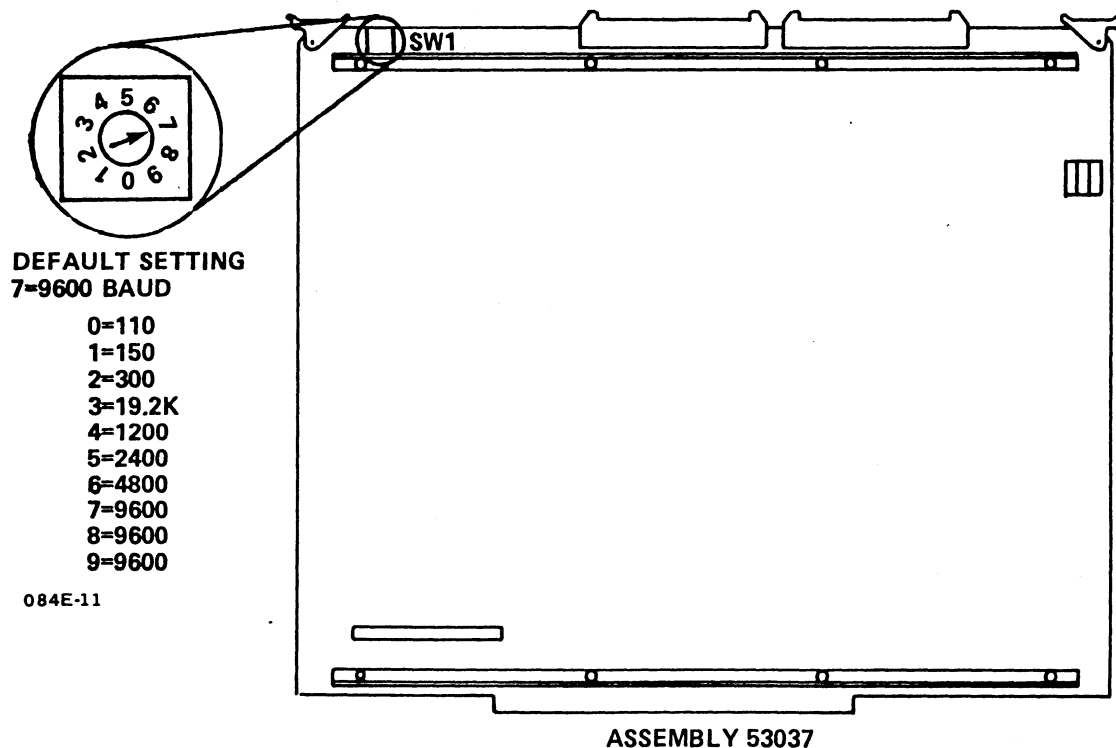

Figure 2-9. Changing the Baud Rate for Port 0 on a MARK 4E (16-32)
- a. For Port 0, to change the baud rate to a setting other than 9600, insert a screwdriver into the rotary baud rate switch (SW1), located near the upper edge of the PIB, and turn the arrow to the appropriate setting (see Figure 2-9).